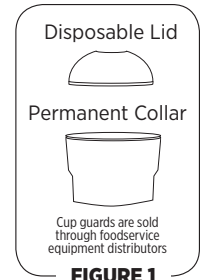
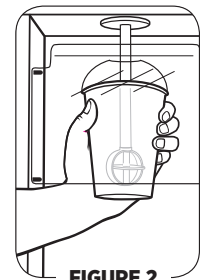

FIGURE 1
FIGURE 2
- Place a cup guard on the cup (See Figure 1). Hold the cup (and lid or collar) securely in your hand (from the side, not from the bottom) and reach under the splash guard. Move the cup under the agitator and lift up so the agitator touches the bottom of the cup. See Figure 2.